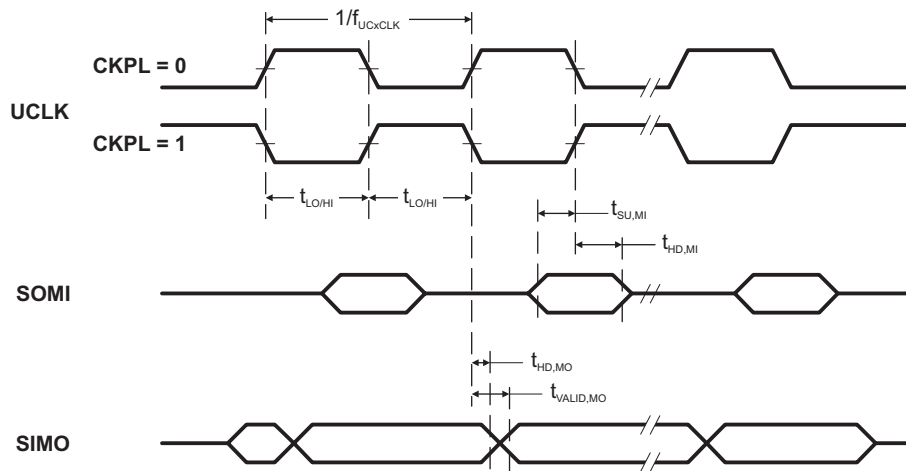
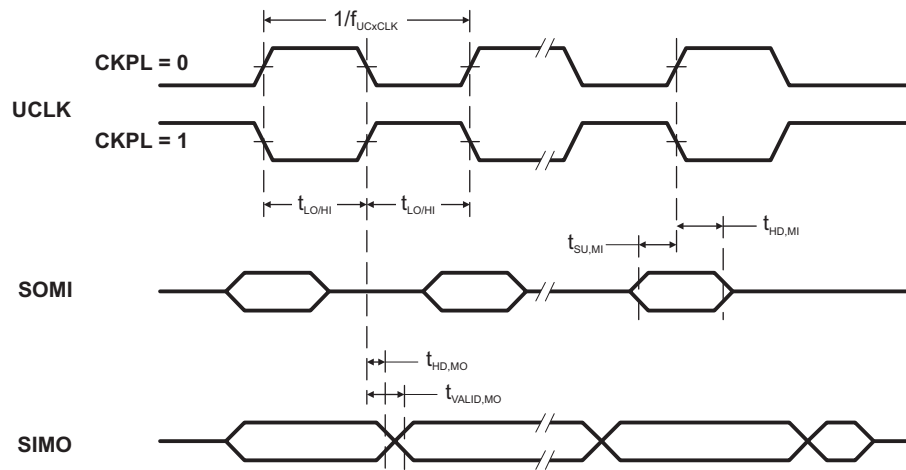

Figure 11. SPI Master Mode, CKPH = 0
Figure 12. SPI Master Mode, CKPH = 1
(see Note (1), Figure 11 and Figure 12)
(2) Specifies the time to drive the next valid data to the SIMO output after the output changing UCLK clock edge. Refer to the timing diagrams in Figure 11 and Figure 12.
(3) Specifies how long data on the SIMO output is valid after the output changing UCLK clock edge. Negative values indicate that the data on the SIMO output can become invalid before the output changing clock edge observed on UCLK. Refer to the timing diagrams in Figure 11 and Figure 12.
- (2) Specifies the time to drive the next valid data to the SOMI output after the output changing UCLK clock edge. Refer to the timing diagrams in Figure 11 and Figure 12.
- (3) Specifies how long data on the SOMI output is valid after the output changing UCLK clock edge. Refer to the timing diagrams in Figure 11 and Figure 12.